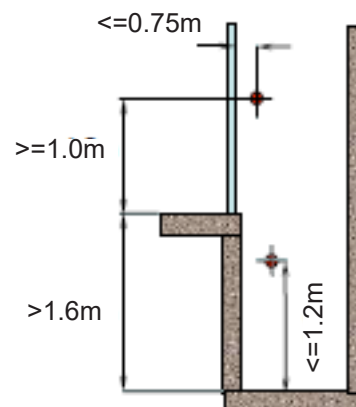

Figure 8.2: Placement of stop buttons if pit is $> 1,6m$
8.2 If the shaft pit is deeper than 1.6 m (see figure 8.2 to the right below):